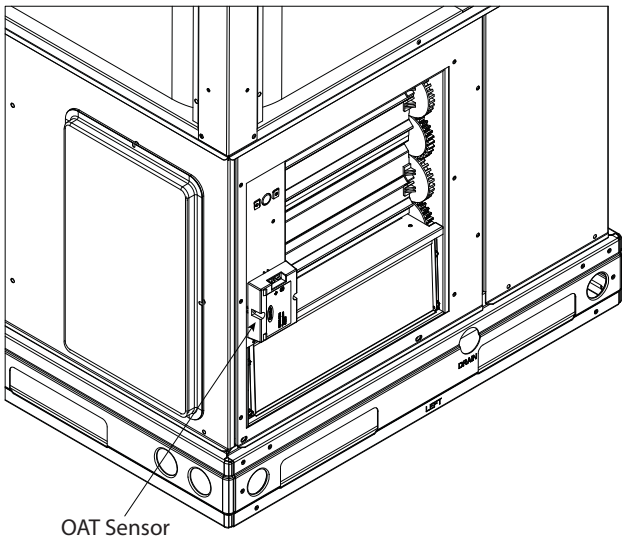

Fig. 2 - Oat Sensor Installed
4. Remove red shipping tape that attaches the outside air temperature (OAT) sensor to the economizer assembly. Using two #8 fasteners, found in the hood package, attach the OAT sensor to the economizer according to Fig. 2.